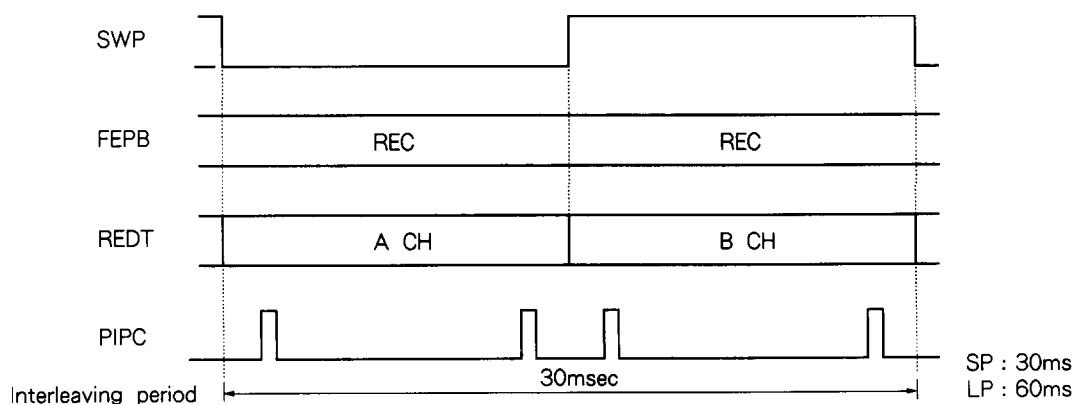

Fig. 6-5. ϕ 15 Type Recording Timing (SP/LP)
In the RF module, the data for recording (REDT) is amplified by the recording amplifier and then the recording signals are transmitted to heads A and B alternately according to the timing of the switching pulse (SWP). (Refer to Fig. 6-5.) Recording/playback of the head recording/playback amplifier inside the RF module is selected by the MODE 2 signal from Pin ⑨⑥ of the system control (IC506) and the recording/playback discrimination signal (REPB) from Pin ④① of the signal processor (IC508). Recording is selected when these signals are "H" and playback is selected when they are "L". The PIPC signal from Pin ③⑨ of the signal processor indicates the recording area of the ATF pilot signal. The PIPC sets the recording level of the ATF pilot signal.